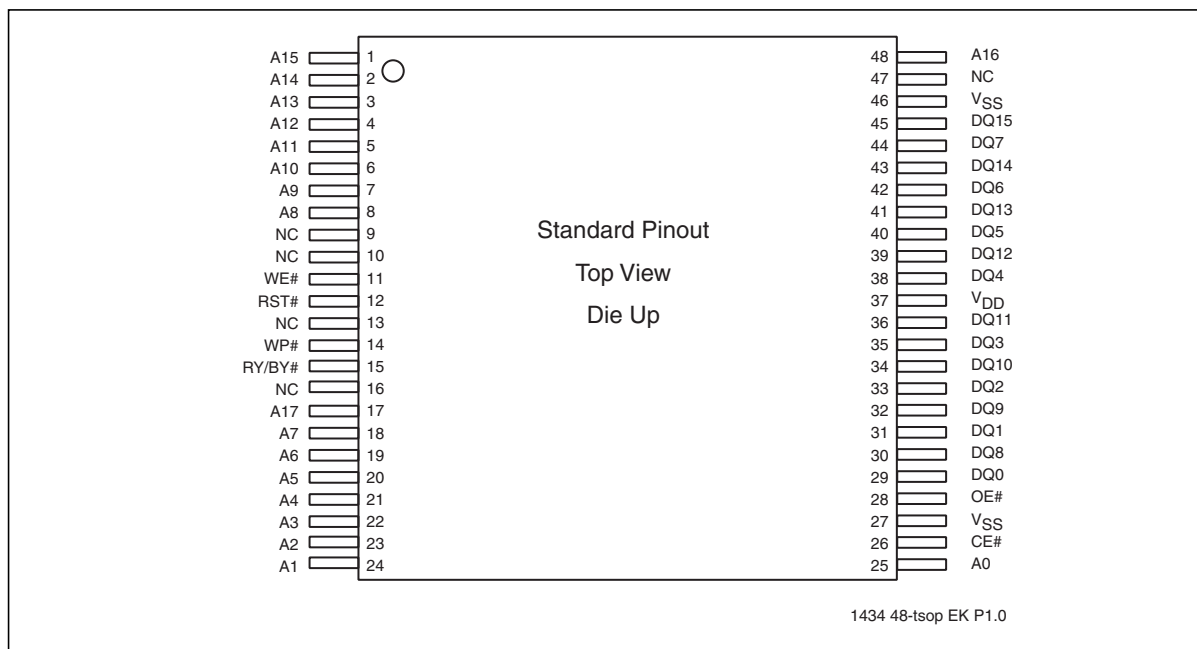

Figure 2: Pin Assignments for 48-Lead TSOP
To meet high density, surface mount requirements, the SST39VF401C/402C and SST39LF401C/402C are offered in 48-lead TSOP, 48-ball TFBGA, and 48-ball WFBGA packages. See Figures 2, 3, and 4 for pin assignments.
The sector architecture is based on a uniform sector size of 2 KWord. The Block-Erase mode is based on non-uniform block sizes—seven 32 KWord, one 16 KWord, two 4 KWord, and one 8 KWord blocks. See Figure 2 for top and bottom boot device block addresses. The Sector-Erase operation is initiated by executing a six-byte command sequence with Sector-Erase command (50H) and sector address (SA) in the last bus cycle. The Block-Erase operation is initiated by executing a six-byte command sequence with Block-Erase command (30H) and block address (BA) in the last bus cycle. The sector or block address is latched on the falling edge of the sixth WE# pulse, while the command (30H or 50H) is latched on the rising edge of the sixth WE# pulse. The internal Erase operation begins after the